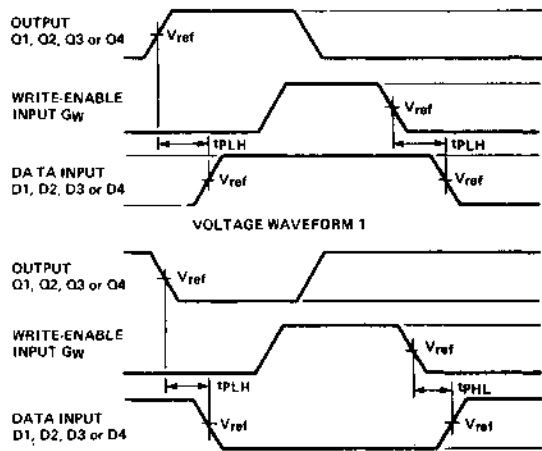

FIGURE 2
- C. In Figure 2, each select address is tested. Prior to the start of each of the above tests, both write and read address inputs are stabilized with $W_A = R_A$ and $W_B = R_B$. During the test G_R is low.